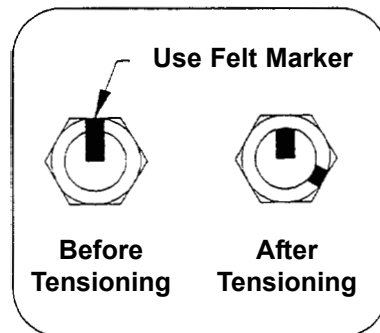
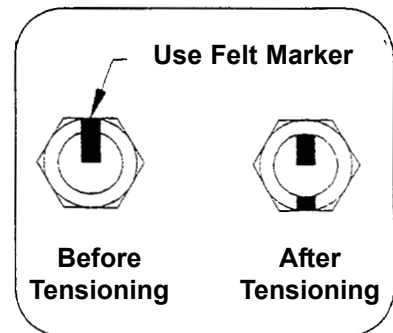

Figure 3-1a: A-325 Tensioning Procedure For bolts less than 4 diameters
Figure 3-1b: A-325 Tensioning Procedure For bolts over four diameters
- Step 5** Using a felt-tip marker, mark the nuts and the ends of the bolts with a straight line as shown in Figure 3-1a and Figure 3-1b.
- Step 6** Tighten the nuts further with an extra long wrench until the nuts are moved 1/3 turn (120 degrees) as shown in **Figure 3-1a** for bolt lengths less than four diameters and 1/2 turn (180 degrees) as shown in **Figure 3-1b** for bolt lengths over four diameters.